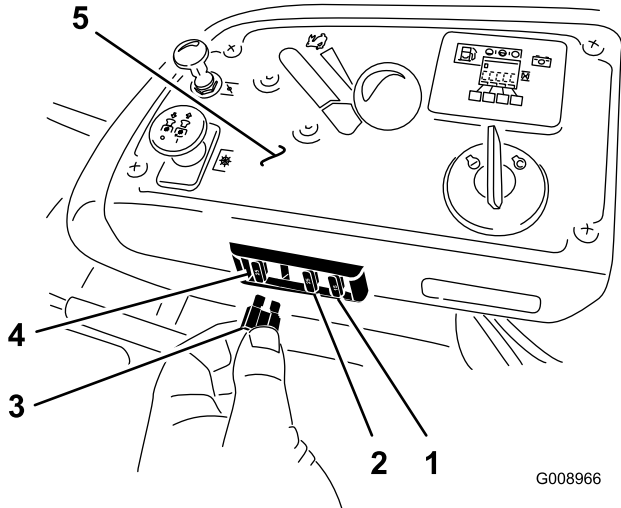

Figure 74
The fuses are located on the console to the right of the seat (Figure 74).
2. Install a new fuse (Figure 74).